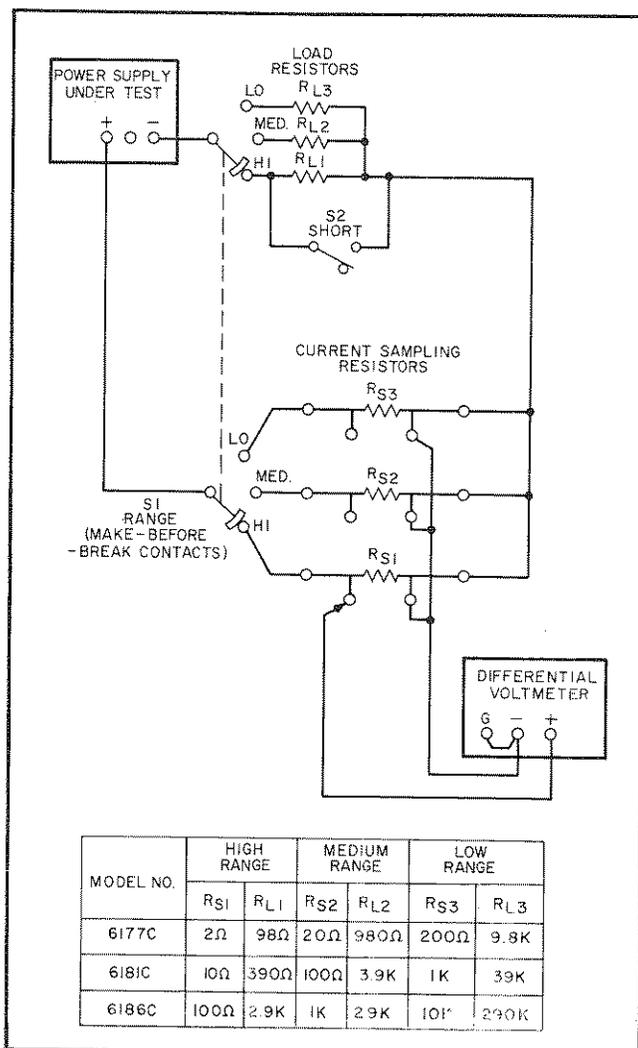

Figure 5-3. Output Current Test Setup
5-9 The monitoring device should be connected across the current sampling resistors as shown in Figure 5-3. As indicated in this illustration, neither output terminal of the power supply is grounded and the measuring device case is connected to the junction of the load and sampling resistors. This arrangement prevents ground loop paths and minimizes shunt current paths. The external range switch must have a high insulation resistance (100000M $\Omega$  or greater) to avoid significant leakage that would degrade the performance of the supply
a. Connect test setup shown in Figure 5-3, leaving switch S2 open throughout test.
a. Connect test setup shown in Figure 5-3, except connect differential voltmeter between +METER and (-) output terminals or between A0 and (-) output terminals (see Figure 3-7). Leave switch S2 open throughout test.
- Connect test setup shown in Figure 5-3.
a. Connect test setup shown in Figure 5-3. In addition, connect variable autotransformer between input power source and power supply power input.
a. Connect test setup shown in Figure 5-3, substituting true rms ac voltmeter for differential voltmeter (neither terminal grounded) and connecting positive terminal of supply to ground.
- Connect test setup shown in Figure 5-3. Strip chart recorder can be substituted for differential voltmeter to obtain permanent record.